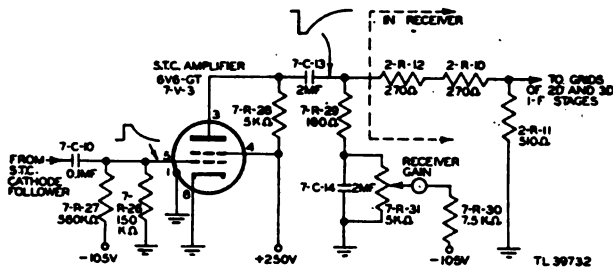

Figure 97. S.T.C. amplifier, simplified schematic diagram.
**s. S.T.C. AMPLIFIER.** The last stage in the S.T.C. circuit is the S.T.C. amplifier (fig. 97), a 6V6 tube (7-V-3). The tube is operated as a conventional pentode with the screen connected directly to +250 volts and the plate connected through 5,000 ohms to +250 volts. The grid voltage is approximately -22 volts, obtained across the divider network from -105 volts.